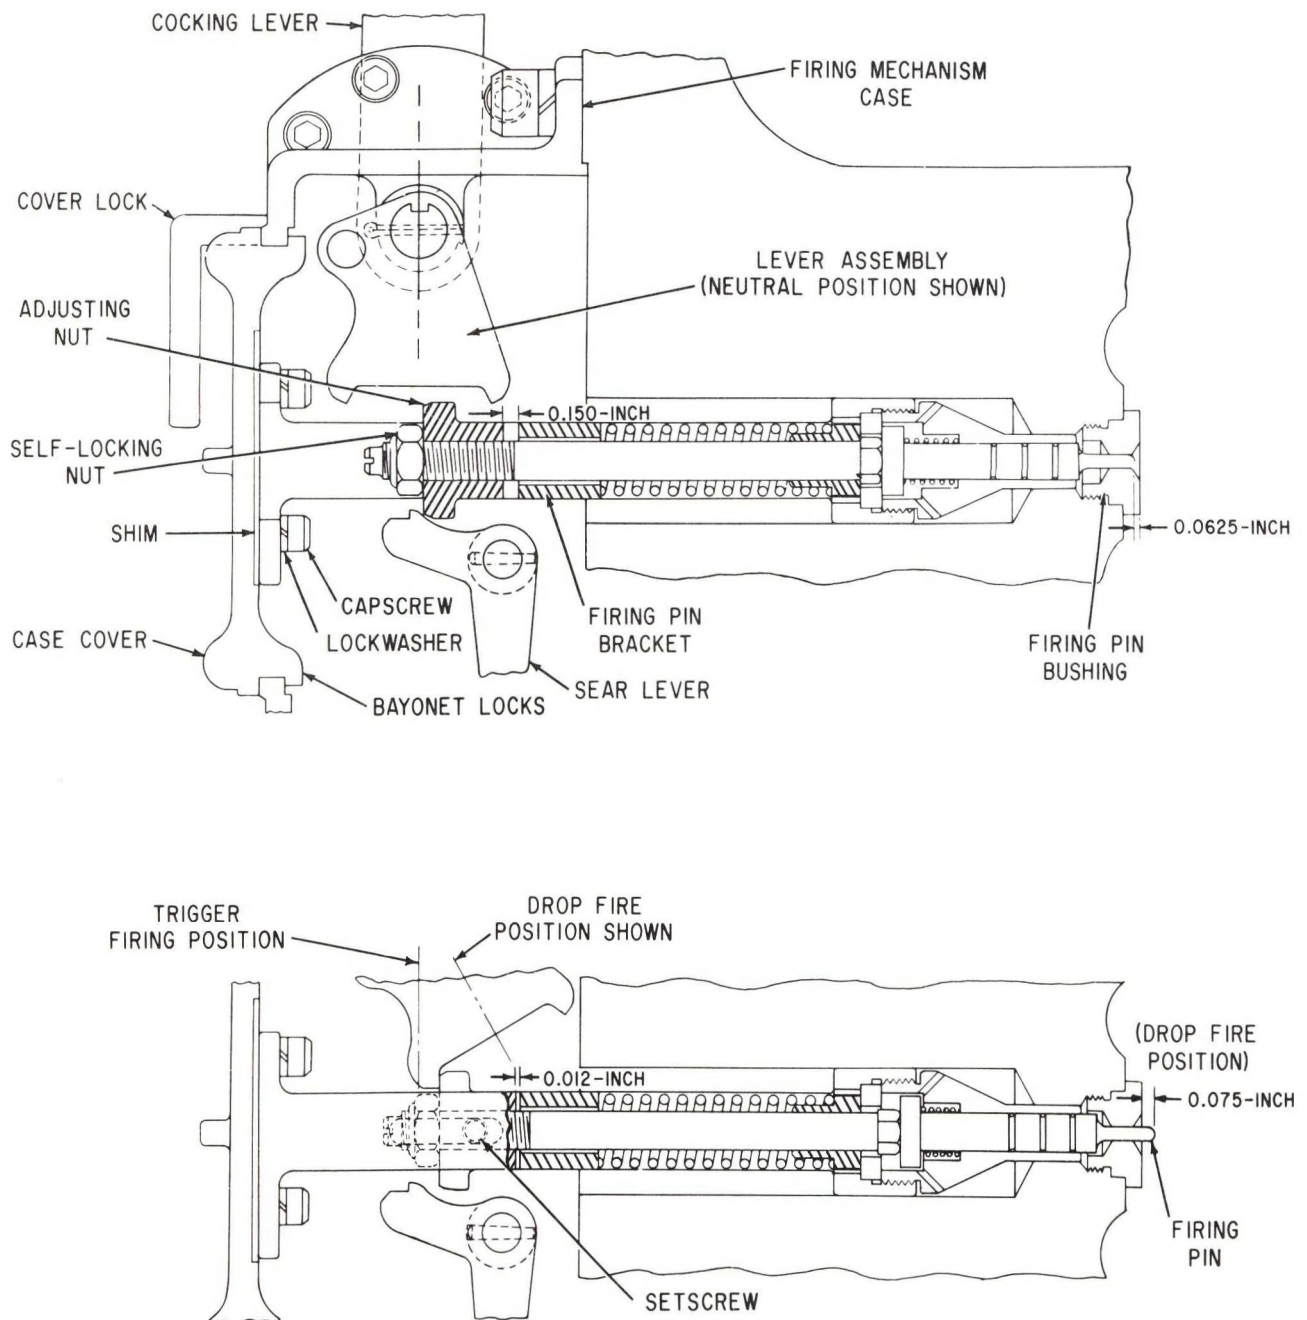

Figure 6-3. Firing Pin Adjustment
6-27. When firing pin assembly is in NEUTRAL position, the firing pin (12, figure 6-3) must be recessed approximately 1/16-inch from the face of the firing-pin bushing (11). This can easily be checked using a piece of soap or wax secured to the end of a rod and forced down on the firing-pin bushing (11). A check of the impression made on the soap or wax would indicate whether the pin is properly recessed. In the DROP FIRE position, the firing pin (12) must protrude 0.075 ± 0.002 inch beyond the face of the firing pin bushing. The soap or wax method may also be used to check firing pin protrusion; however, the most effective method is to use the combination tool assembly (figure 6-1) as described in the following procedures.
1. Pull cocking lever (2) to DROP FIRE position and lock.
2. Insert adjusting bolt (11) into bracket through sleeve and spring (10).
3. Thread adjusting nut (16) onto adjusting bolt (11) to obtain required clearance of 0.150 inch as shown in figure 6-3. Secure self-locking nut (6, figure 7-6) and setscrew (11).
4. Insert firing pin stop (10) into bracket.
5. Assemble firing pin (9) and spring (13) into firing pin guide (7). Insert unit into bracket and secure by threading firing pin guide to threaded end of bracket.
6. Install case cover (1) and correct number of shims (4) as recorded in paragraph 6-46, step 4. Secure shims and cover to bracket with capscrews (2) and lockwashers (3).
8. Perform adjustment procedures described in paragraph 6-26 to ensure proper firing pin position for DROP FIRE and NEUTRAL condition (see figure 6-3).